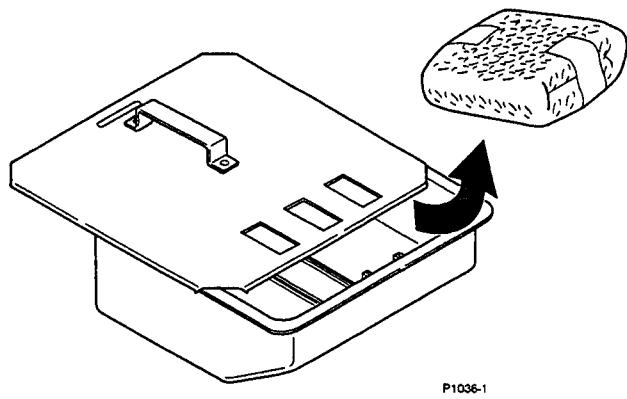

FIGURE 3: PARTS IN CASHBOX
- 3) Keys are attached to the ball shooter. Open coin door and remove cash box. Remove parts and re-install cash box (see Figure 3).